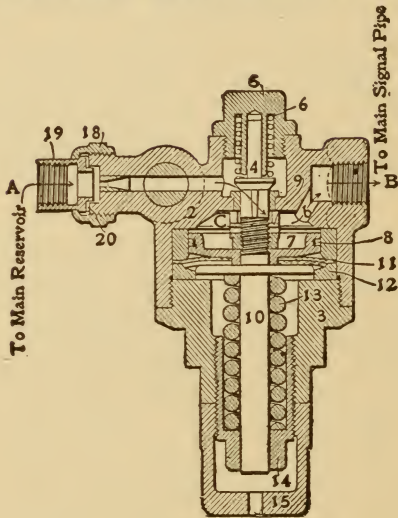

Fig. 45.
A. This valve is shown by Fig. 45. The numbers 7 and 10 are the reducing valve piston and stem which are forced upward by the spring 13 which is adjusted by the nut 14 to the pressure desired to carry in the signal line. Supply valve 4 is moved off its seat by the stem of piston 7. Main reservoir pressure is admitted at A and passes under valve 4 into chamber C, thence out at B into the main signal pipe. When the pressure in cavity C overcomes the tension of spring 13, the piston 7 and stem 10 are forced downward and the small spring 6 forces valve 4 onto its seat, thereby cutting off main reservoir pressure. The pressure in cavity C and the signal line is always the same. Therefore, when the pressure in cavity C is reduced from any cause, such as a reduction at the car discharge valve or from leaks or otherwise, the spring 13 will force piston 7 upward and unseat the supply valve 4 and recharge the signal line.
A. First examine the angle cock between engine and train and be sure it is open. Next examine the plug cock between the main reservoir and reducing valve, and if the reducing valve is outside and the weather is cold it may be frozen, or it may be that the small taper port in the reducer, Fig. 45, where main reservoir pressure enters, may be closed with dirt or oil.
Q. If spring 13 of the reducing valve, Fig. 45, be properly adjusted to forty pounds pressure, how can full main reservoir pressure enter the whistle signal line?
A. If there is dirt on the seat of valve 4, Fig. 45, which prevents the valve from seating, full main reservoir pressure will leak past valve 4 and back into the signal line.
line will flow under valve 4, Fig. 45, toward the main reservoir and the reduction in signal line pressure will cause the whistle to blow.